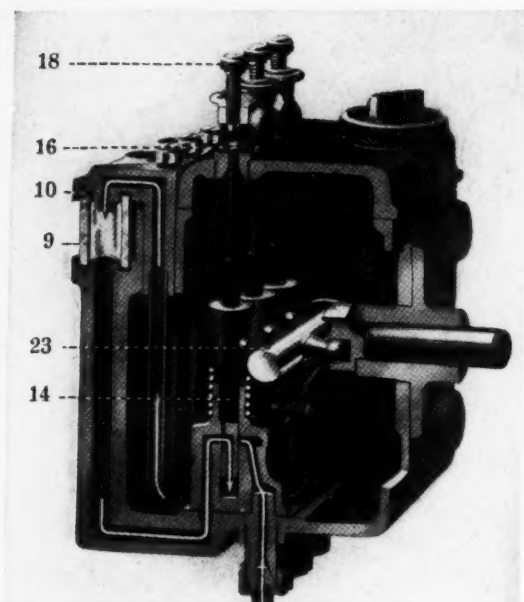

Fig. 2—Cutaway view of lubricator
**A**N UNUSUAL mechanical movement is incorporated in the type DS1 mechanical lubricator developed by Nathan Mfg. Co., New York, a general sectional view of which is disclosed in Fig. 2. The object of the movement is to transfer rotary motion of the input shaft to partial turning and sliding movement in the plungers which are employed in these lubricators to eliminate the use of valves. The plungers are operated by a shaft common to all shown at 11, Fig. 4, in such a manner that each plunger by its upward movement and simultaneous turning motion opens and closes automatically the suction channel, and by its downward movement opens and closes the delivery channel. The action is positive, thus rendering certain the delivery of oil.